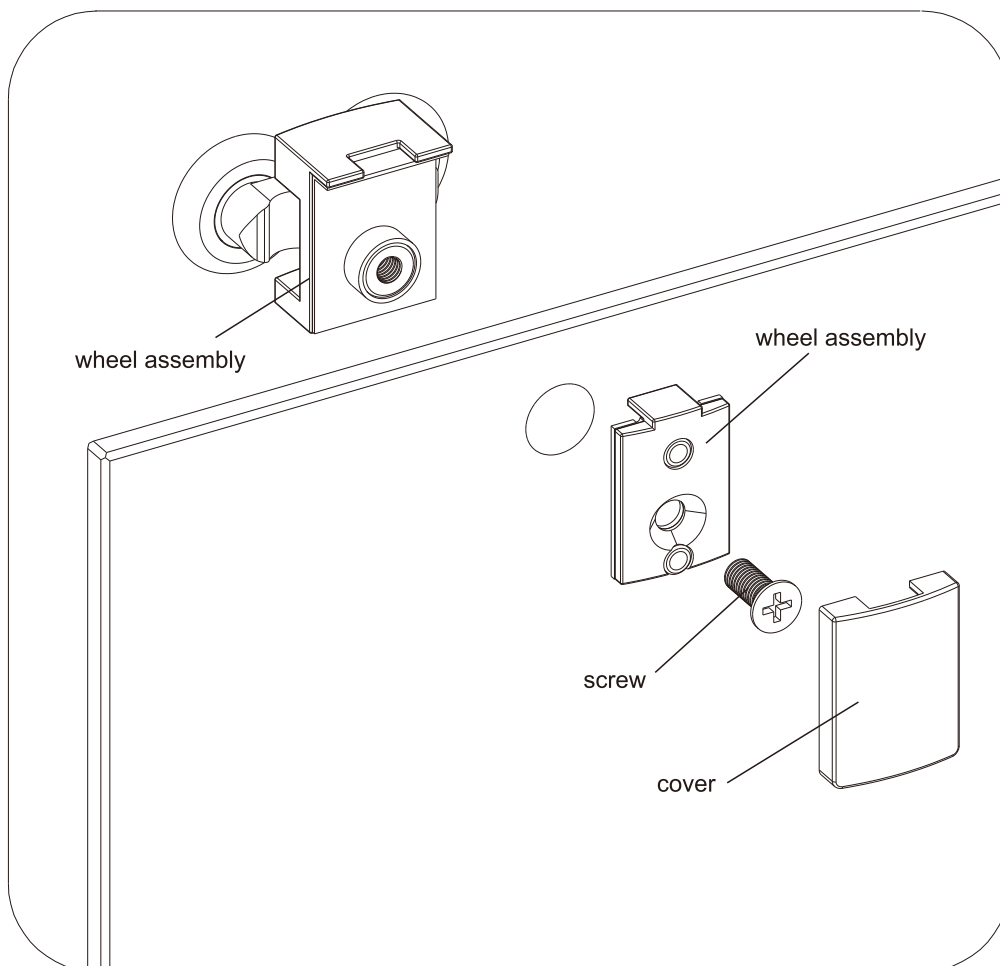

Fig 13
3. Before installing the **Door Panel [07]** as in step 8, move the wheel assemblies of **Door Panel [07]** to the other side of it by removing the covers and screws. Secure the wheel assemblies again. Do not transpose the wheel assemblies. (Fig 13)